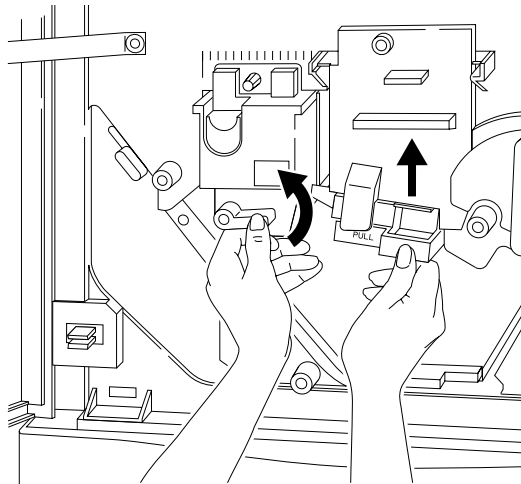

Figure 3-52 Closing Lever 4 and securing the Transfer Assembly
4. After you have removed the paper, raise the Transfer Guide, return Lever 4 to the horizontal (closed) position (as shown in Figure 3-52), and close the door.